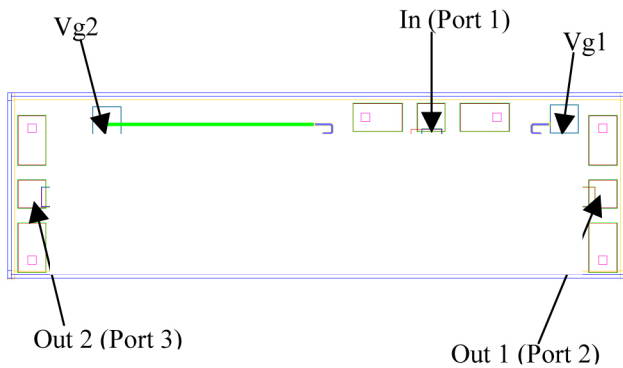

Fig. 1 TLC's Ka-band switch, Y4 98B
Step 1: Setup the Test station with three RF and two DC probes to be able to contact the RF and DC pads of the switch, as shown in Fig. 1.